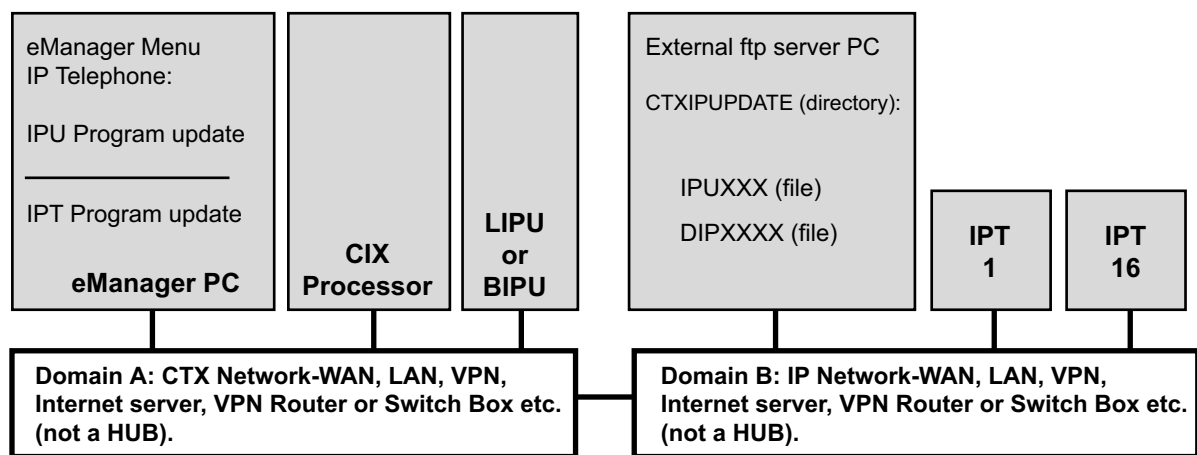

Figure B-3 FTP Server (External Server) Network Connection
2. The eManager PC cannot be connected directly to the CIX processor network jack. All connections must be through the network (see Figure B-3 below).